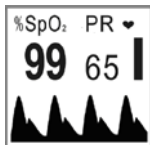

Figure4A
4. The user can read the values and view the waveform on the display screen as seen in figures 4A-4F below.